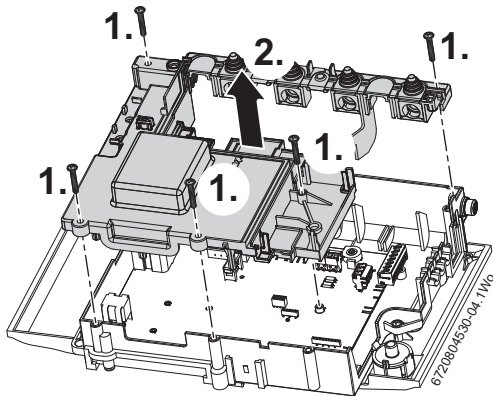

Fig. 113 PCB access
► Refer to figure 113 and disconnect all electrical connections from the control.